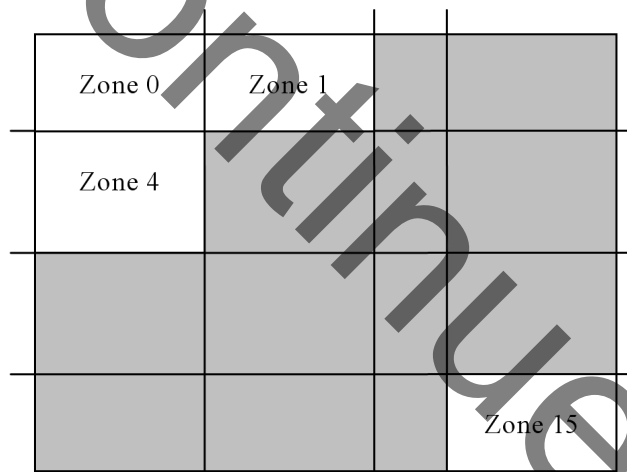

Figure 1-1: 16 Zone Metering
Most digital cameras implement a form of automatic white balance (AWB) and automatic exposure (AE) control. Cameras with an adjustable focus (AF) lens also implement automatic focus. All of these algorithms have the need for sophisticated image statistics gathered from the image or video to process and implement controls and algorithms for these functions. Generating image statistics is a data intensive process, and the Image Statistics core provides an efficient, programmable solution. The resulting image statistics provide the basic data for software based AE, AWB and AF algorithms. The Image Statistics core supports multi-zone metering on rectangular regions, and 16 software defined zones, as shown in Figure 1-1.